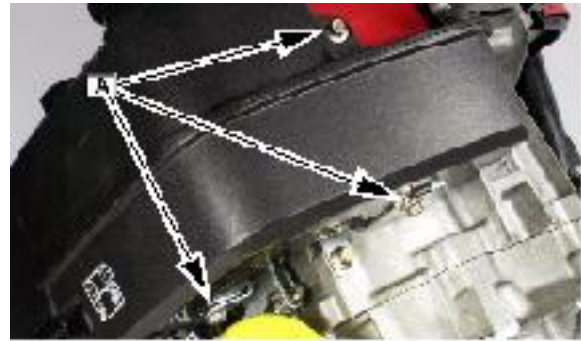

Fig. 10
7. Remove the three tank mounting screws ([A] Fig. 10) and remove tank.